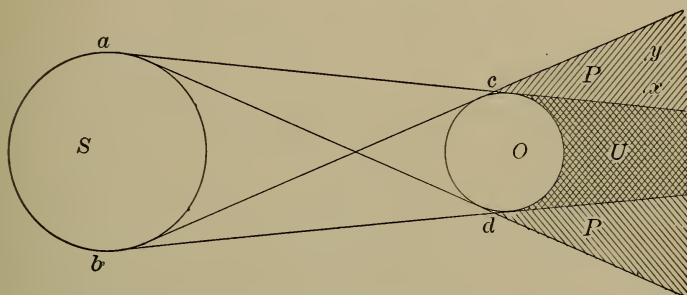

FIGURE 70.—SHADOW FROM A LARGE SOURCE OF LIGHT.
**114. Shadow from a Large Source.** — Most of our light comes from large sources and not from points. Figure 70